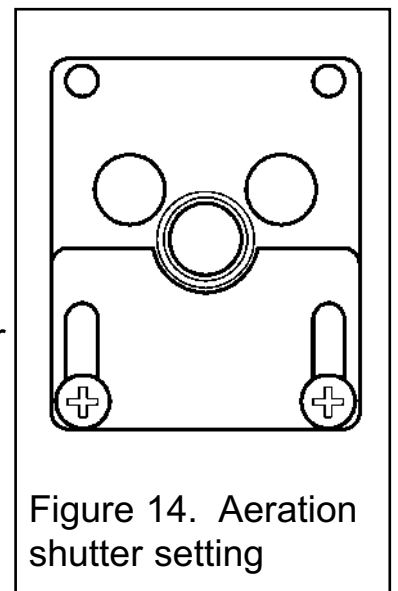

Figure 14. Aeration shutter setting
- The aeration shutter is factory set. It is important to ensure that the aeration setting is correct. Check the aeration shutter setting (See figure 14).
- To adjust the aeration setting, loosen the two aeration shutter screws, slide the aeration shutter to the position shown in figure 14 and tighten the fixing screws.